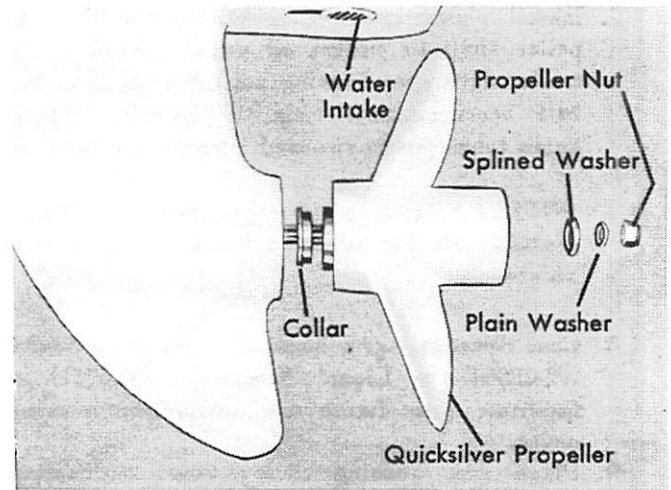

Figure 14. Propeller Installation
I. INSTALLING PROPELLER (Figure 14)